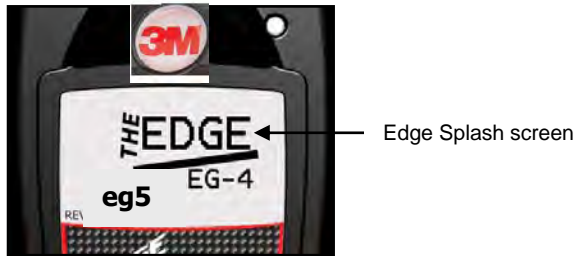

Figure 4-5: Splash screen
3. When the splash screen appears, press and **hold** the  and  buttons. (See figure 4-5 for splash screen.)